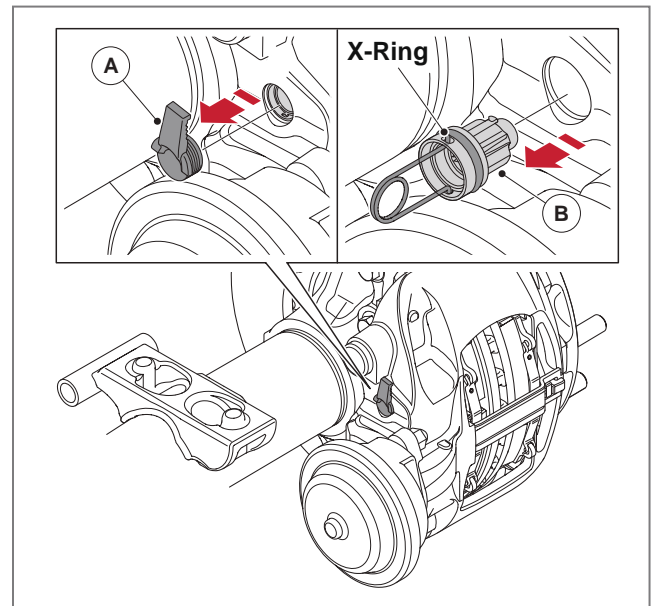

Fig. 73 - Removing the reset shaft
7. Remove the reset shaft protective plug (A).
8. Insert SAF special tool P/N 4 434 3885 00 and pull out the reset shaft (B) with complete x-ring, see ► *Fig. 73*. The x-ring must always be fitted to the reset shaft and never removed.